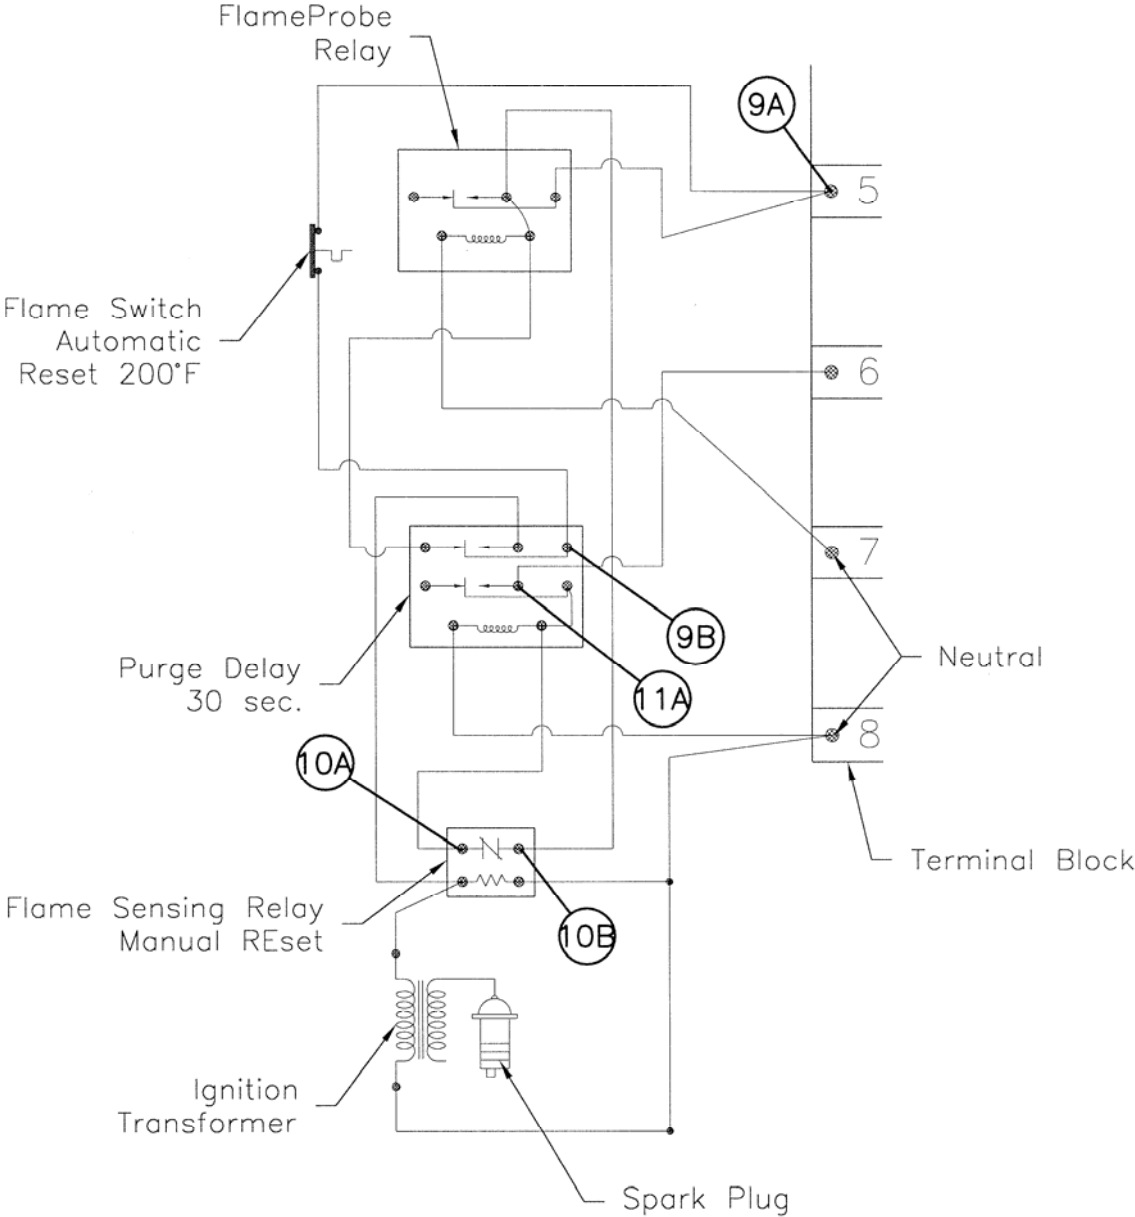
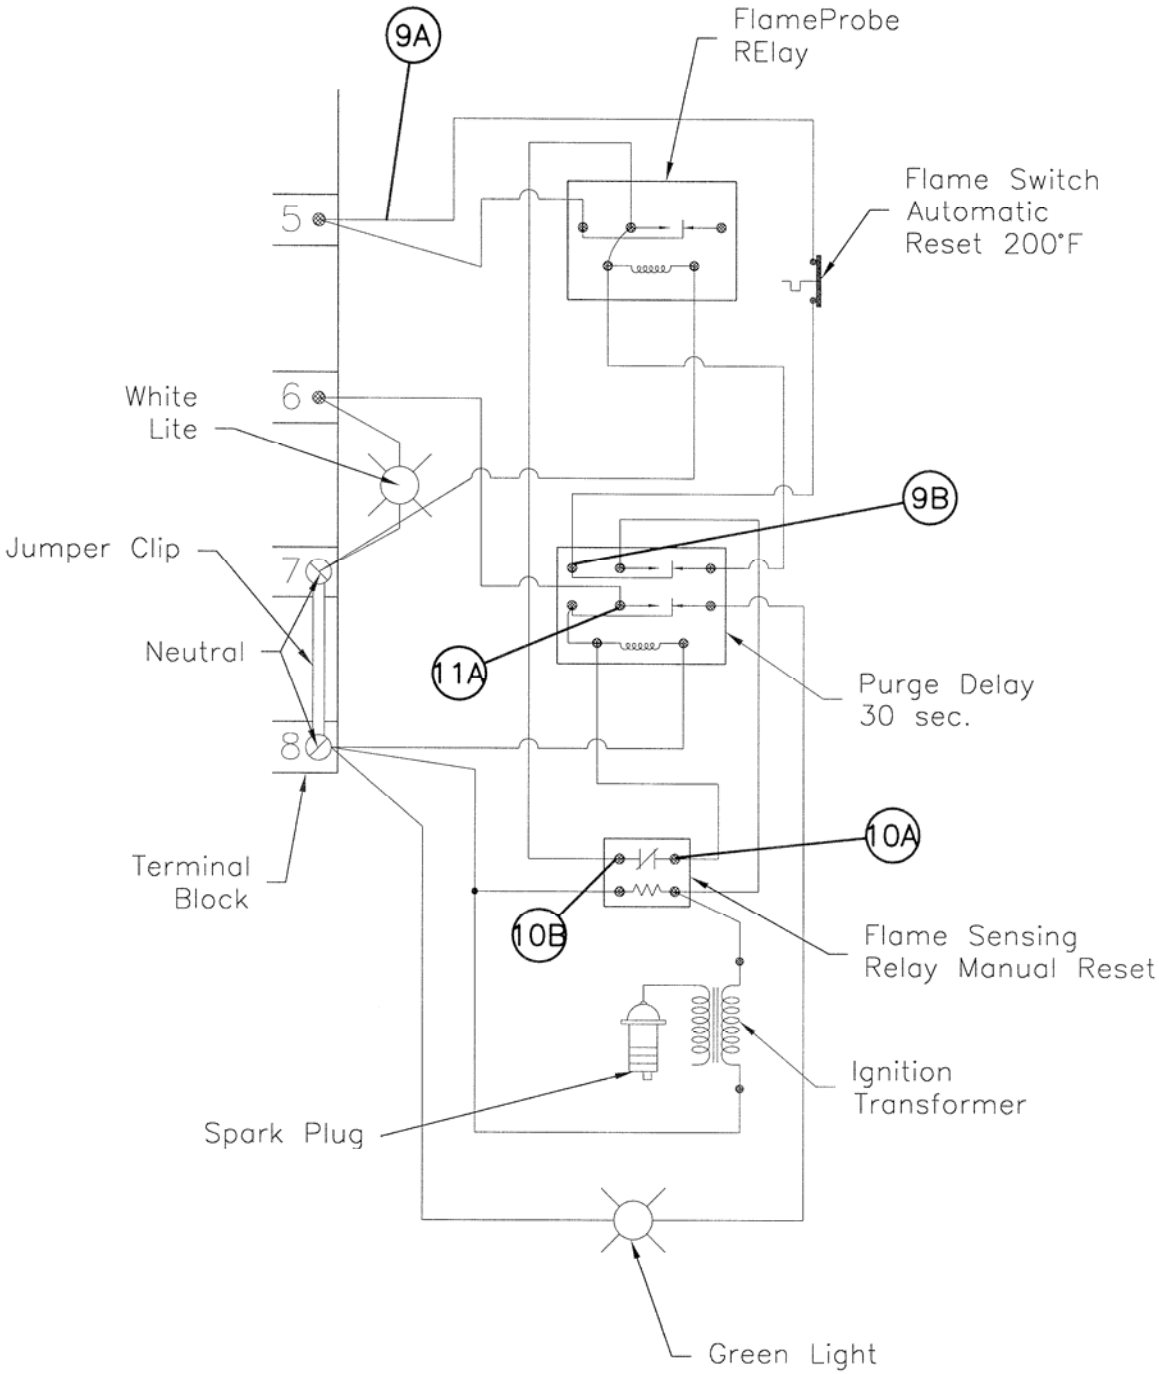

Figure 12. Downstream Heater Flame Sensing Circuits
Figure 13. Axial Heater Flame Sensing Circuits
the Flame Probe will prevent heater operation. Refer to **Figure 12** or **Figure 13** for a diagram of the flame sensing circuit and make sure all wires are connected according to the information in the appropriate figure.
- A. Use a voltmeter and check for continuity across the Flame Probe (Check points are labeled 9A & 9B in **Figure 12** or **Figure 13**.)
- B. After resetting, check the continuity of the contacts of the Flame Sensing Relay labeled 10A & 10B in **Figure 12** or **Figure 13**. On the top contact points check for continuity. Make sure the Flame Sensing Relay has cooled, and then make sure the Manual Reset Button has been reset. If the Flame Sensing Relay has been reset, a lack of continuity indicates a defective Flame Sensing Relay. Replace the Flame Sensing Relay.
Check power at the terminal labeled 11A on **Figure 12** or **Figure 13** of Purge Delay. After power has been supplied to Purge Delay for 30 seconds, power should be present at the terminal labeled 11A of Purge Delay. If not, replace Purge Delay.